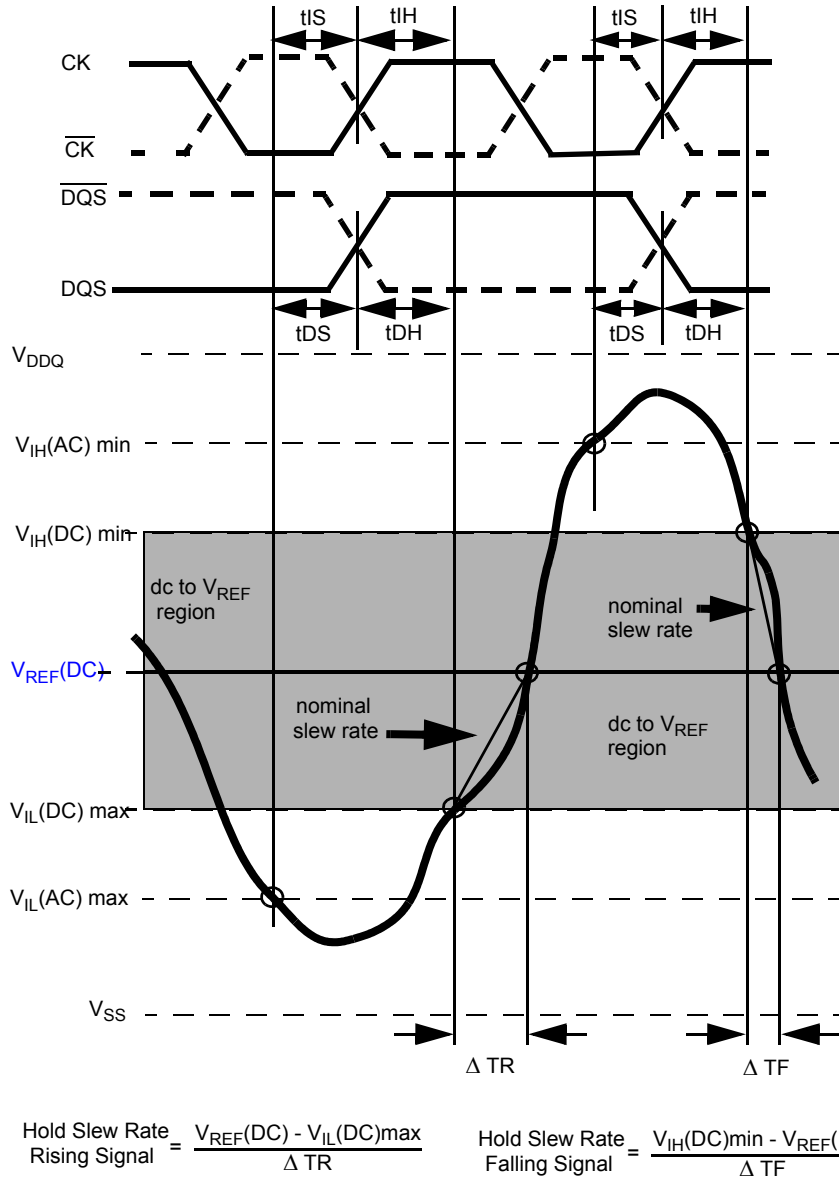
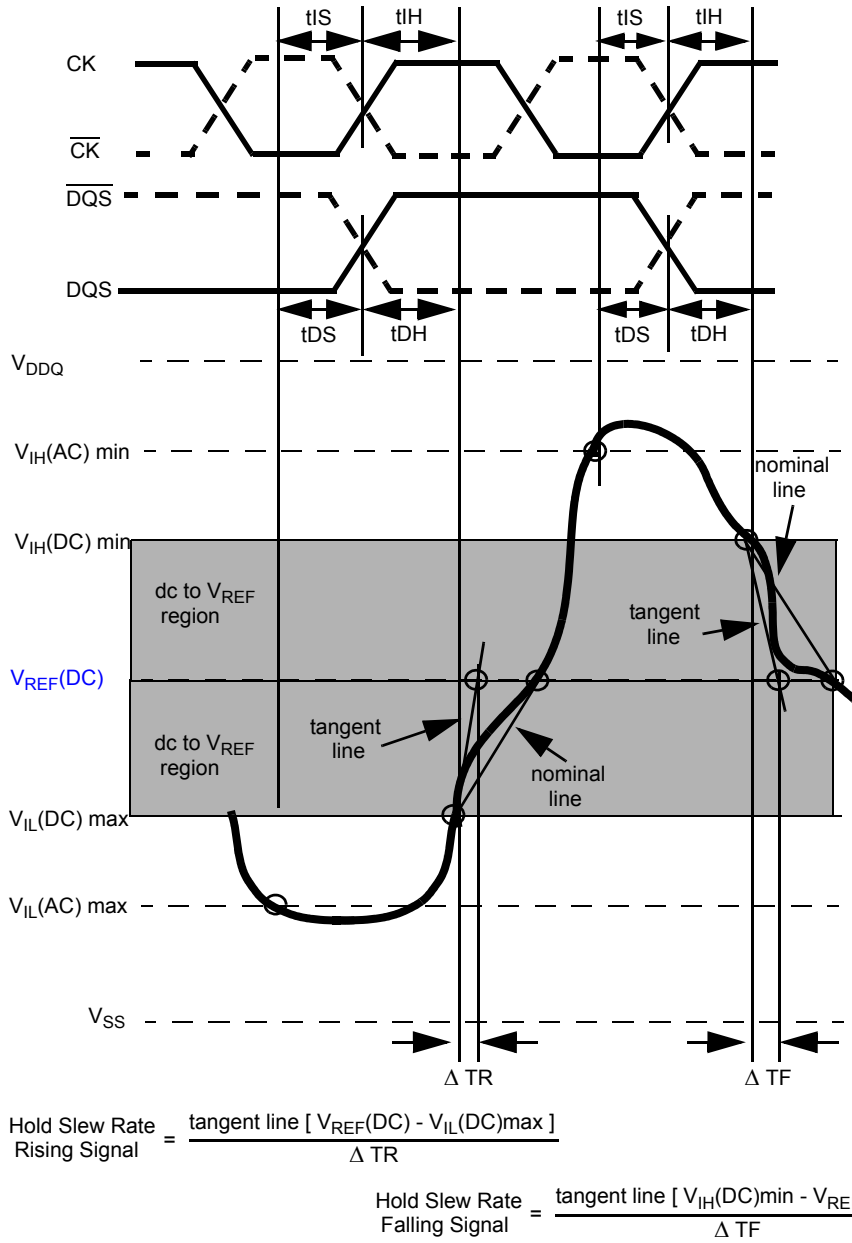

Figure 23. Illustration of nominal slew rate for hold time t_{DH} (for DQ with respect to strobe) and t_{IH} (for ADD/CMD with respect to clock).
Figure 25. Illustration of tangent line for hold time t_{DH} (for DQ with respect to strobe) and t_{IH} (for ADD/CMD with respect to clock)
Hold (tIH) nominal slew rate for a rising signal is defined as the slew rate between the last crossing of VIL(DC)max and the first crossing of VREF(DC). Hold (tIH) nominal slew rate for a falling signal is defined as the slew rate between the last crossing of VIH(DC)min and the first crossing of VREF(DC). If the actual signal is always later than the nominal slew rate line between shaded 'dc to VREF(DC) region', use nominal slew rate for derating value (see Figure 23). If the actual signal is earlier than the nominal slew rate line anywhere between shaded 'dc to VREF(DC) region', the slew rate of a tangent line to the actual signal from the dc level to VREF(DC) level is used for derating value (see Figure 25).